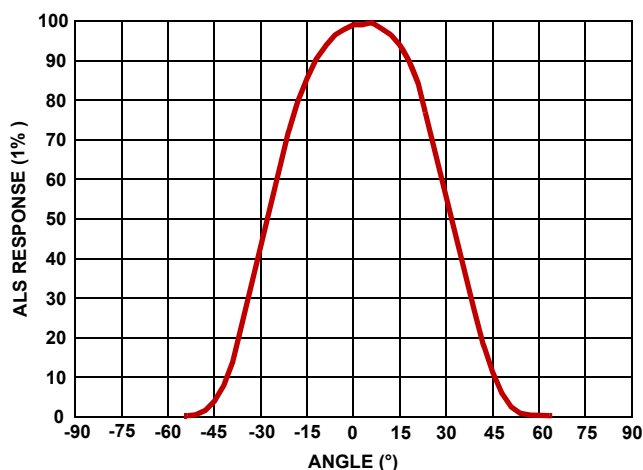

FIGURE 8. ALS ANGULAR SENSITIVITY (Note 14)
14. Figure 8 shows the Ambient Light Sensor Angular Sensitivity of the ISL29147 using a white LED light source.